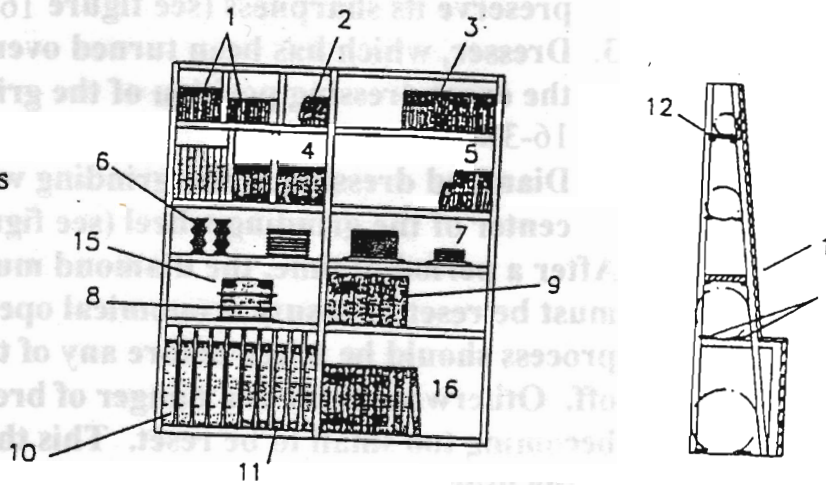

Fig. 17-1 Grinding wheel finishing shelf
1. Grinding wheels must be stored in a dry wheel shelf (as shown in figure 17-1). That is protected from impact and vibration. When moving the grinding wheel, please take extra precautions.